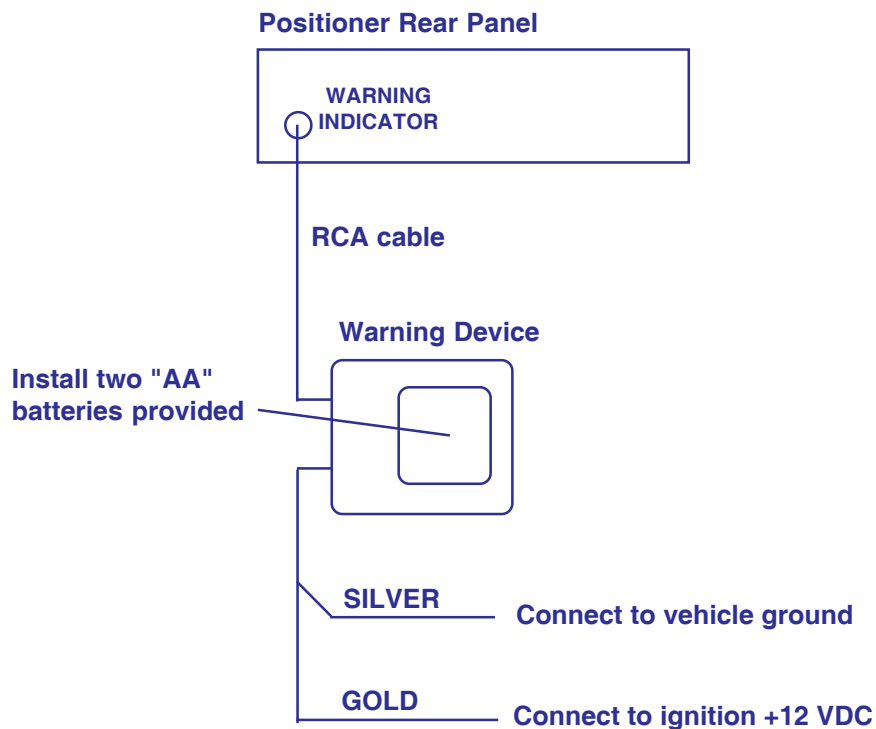

Figure 17
1. Connect the gold colored wire of the warning device wire harness to ignition +12 VDC (there is only +12 VDC present when ignition is turned ON) See Figure 17.
2. Connect the silver colored wire to vehicle ground. See Figure 17.
3. Connect other end of wire (end with molded plug) to warning device. See Figure 17.
5. Connect the single RCA cable to the **WARNING INDICATOR** jack on positioner (see Figure 11). Connect the other end to the warning device. See Figure 17.